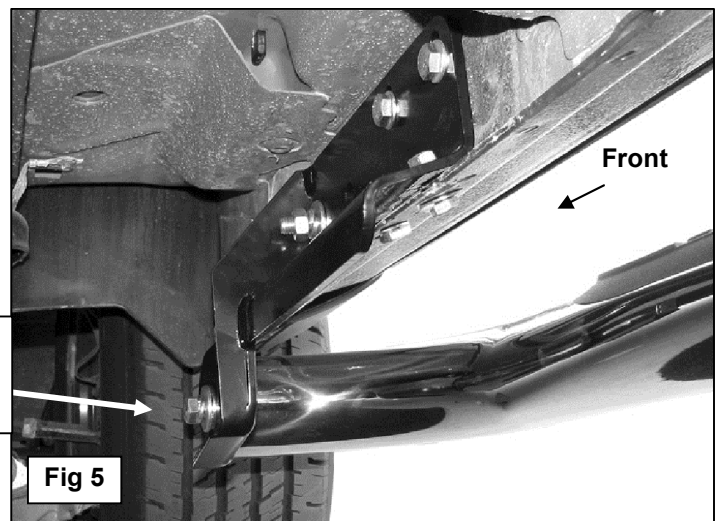

Fig 5
9. Carefully unpack and select the passenger Sidebar. Position the Sidebar up to the Mounting Brackets and attach using the included (2) 1/2" x 2" Hex Bolts, (2) 1/2" Lock Washers, and (2) 1/2" Flat Washers, (**Figure 5**). Snug but do not tighten at this time.